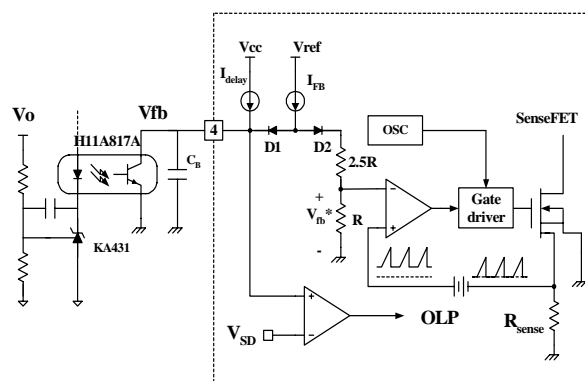

**Figure 4. Internal startup circuit**
**1. Startup :** In previous generations of Fairchild Power Switches (FPSTM) the Vcc pin had an external start-up resistor to the DC input voltage line. In this generation the startup resistor is replaced by an internal high voltage current source. At startup, an internal high voltage current source supplies the internal bias and charges the external capacitor (CVCC) that is connected to the Vcc pin as illustrated in figure 4. When Vcc reaches 12V, the FPSTM begins switching and the internal high voltage current source is disabled. Then, the FPSTM continues its normal switching operation and the power is supplied from the auxiliary transformer winding unless Vcc goes below the stop voltage of 8V.